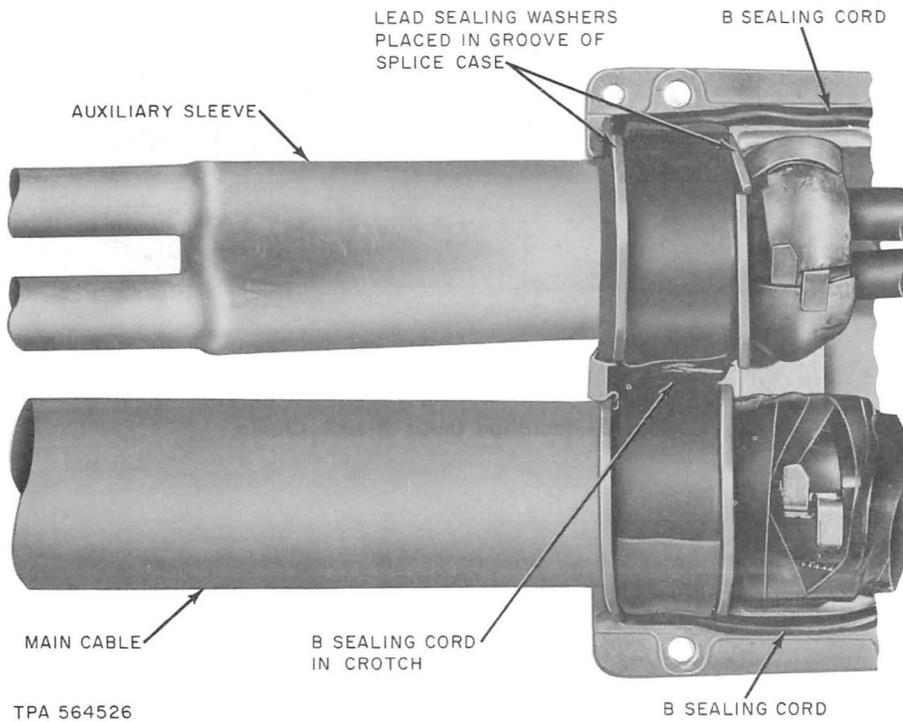
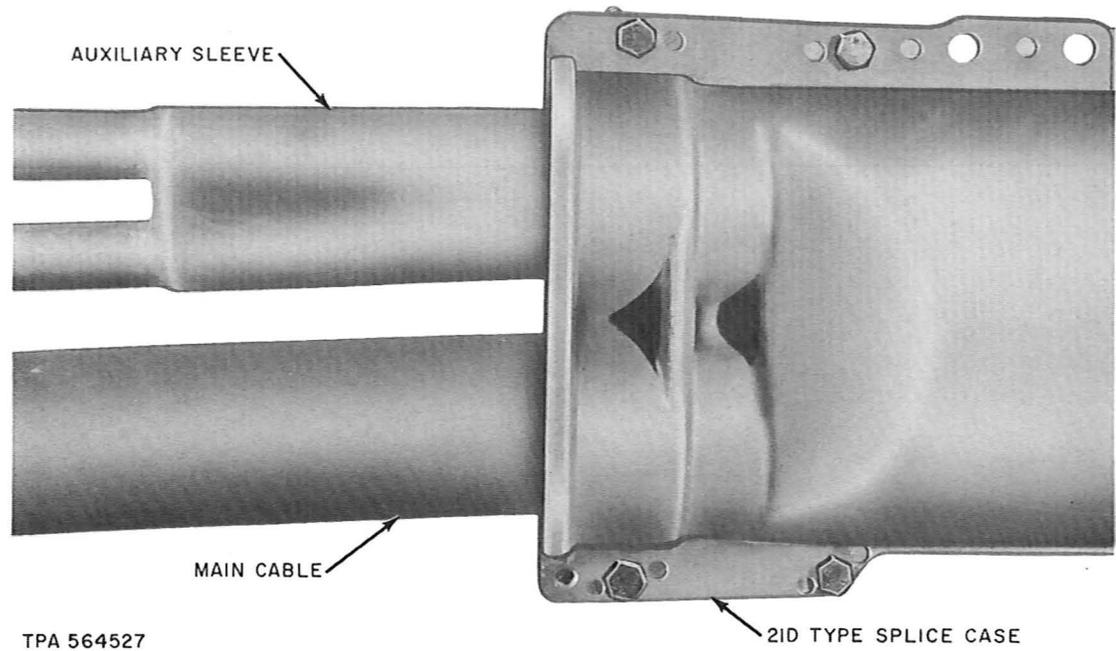

Fig. 7—Back Half of Splice Case Placed Over Splice
Fig. 8—Installed Splice Case
- 4.03** Place a splice case over the splice as outlined in Section 633-400-200. (Fig. 7 and Fig. 8)